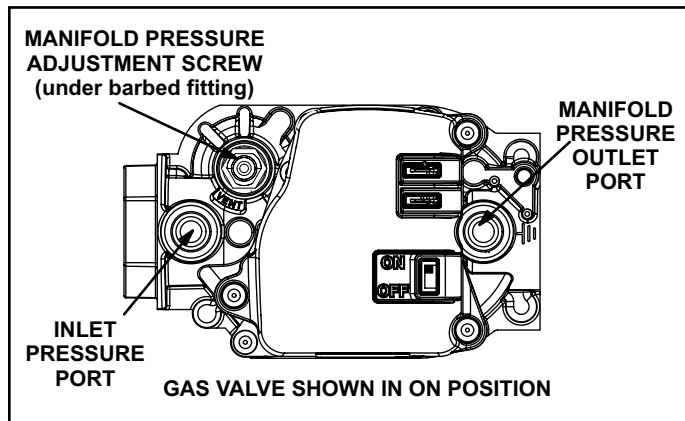

Figure 14. Gas Valve
Gas Valve Operation (Figure 14)
6. Move gas valve switch to OFF. See Figure 14.
8. Move gas valve switch to ON. See Figure 14.
4. Move gas valve switch to OFF position. Do not force. See Figure 14.